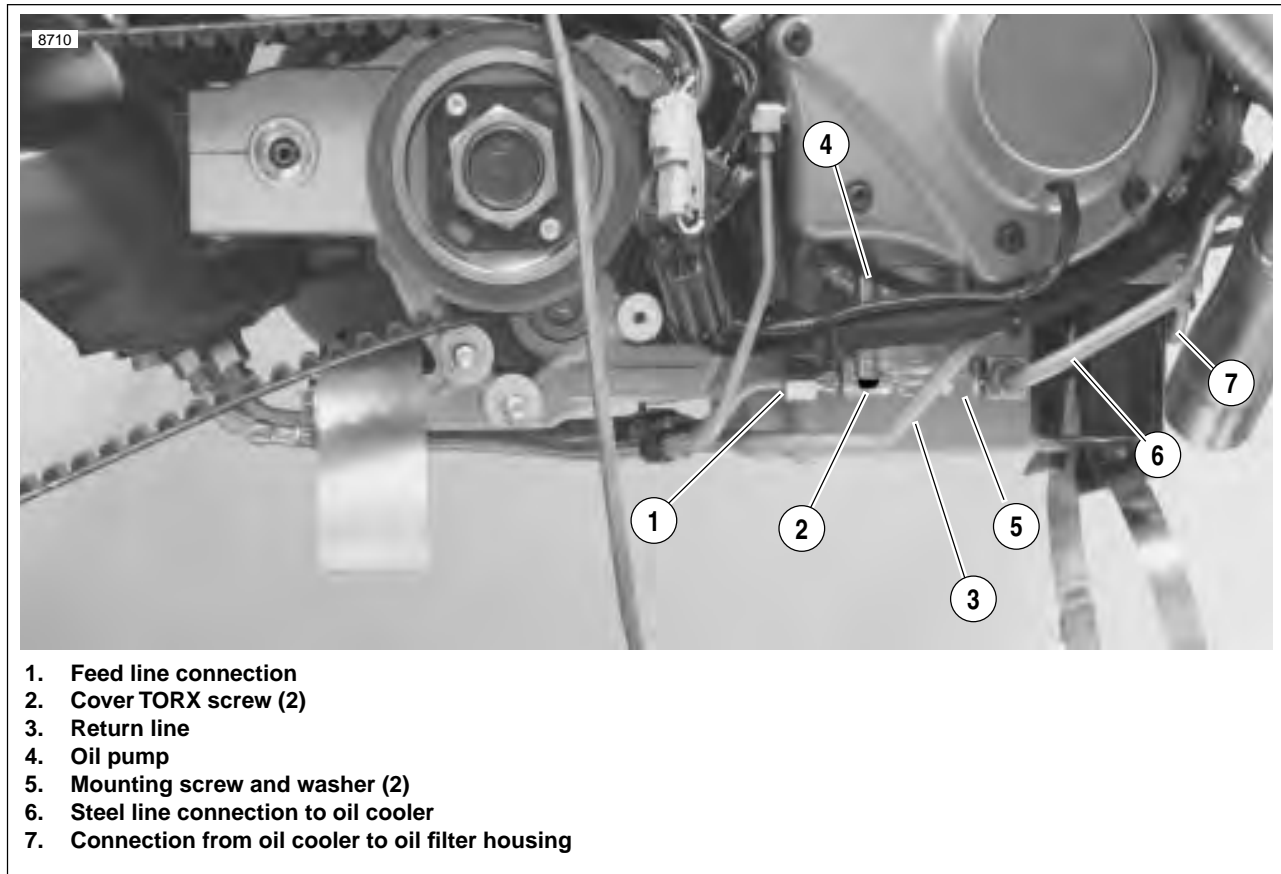

Figure 3-119. Oil Pump Hardware
3. See Figure 3-119. Disconnect feed line connections (1, 6) on both sides of the oil pump.
4. Detach return line connection (3).
5. Carefully remove mounting screws (5) and washers only. Pump will drop with screws removed. Discard mounting gasket.
6. Remove cover TORX screws (2). Lift cover off body.
10. See Figure 3-119. Attach return line connection.